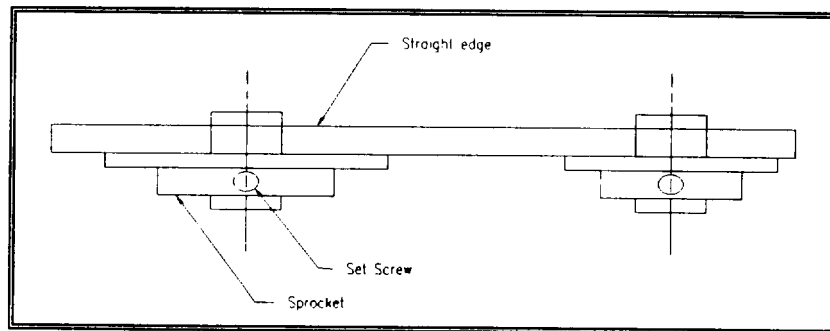

FIGURE 3-1.
- c. Check sprocket alignment by placing a straight edge across the face of both sprockets. (See Figure 3-1) Loosen set screws and adjust as needed. Re-tighten set screws.